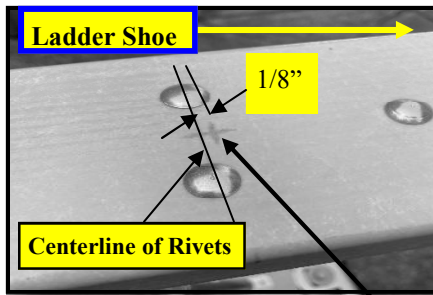

Figure 6 - Primary Ref. Point
Ladders with Riveted Rungs: Installation onto fiberglass ladders with *Riveted* (See Fig 6 - 8) rung-to-plate connections may require locating a “primary” reference point for an accurate template position. This reference point is used when and if the template position appears to enable all bolt holes to line up with proper clearances on inside of rail for washers, nuts, etc. If this is the case, the first-hole reference point can be located by drawing a line between the two lowest rivets under the first ladder rung, then placing a mark 1/8” below this line, on the Centerline (CL) of the rail. (See Figure 6)